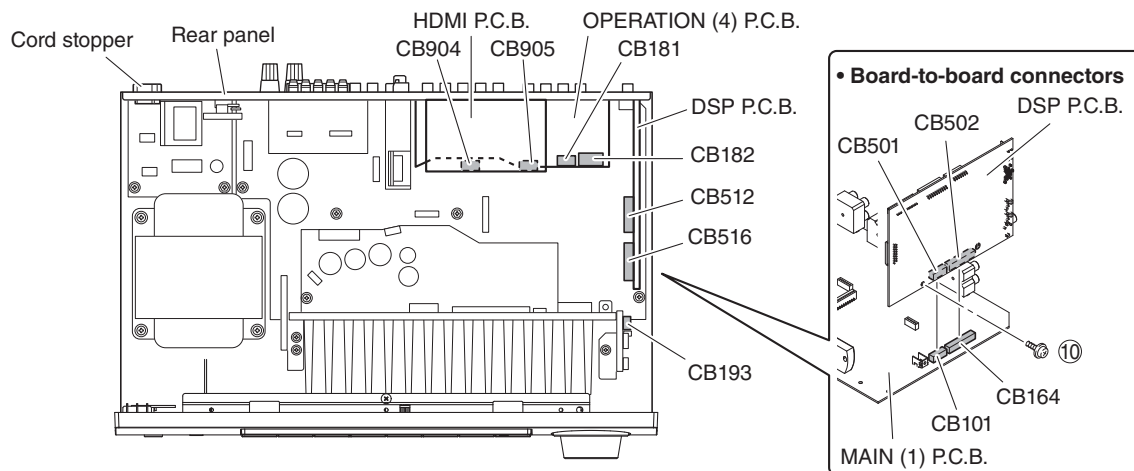

Fig. 2
- a. Remove CB904 and CB905. (Fig. 2)
- c. Remove the HDMI P.C.B.. (Fig. 2)
- a. Remove CB181-182 and CB193. (Fig. 2)
- c. Remove the OPERATION (4) P.C.B.. (Fig. 2)
- b. Remove the cord stopper. (Fig. 2)
- c. Remove the rear panel. (Fig. 2)
- d. Remove screw (⑩). (Fig. 2)
- e. Remove CB512 and CB516. (Fig. 2)
- f. Remove the DSP P.C.B. which is connected directly to the MAIN (1) P.C.B. with board-to-board connectors. (Fig. 2)